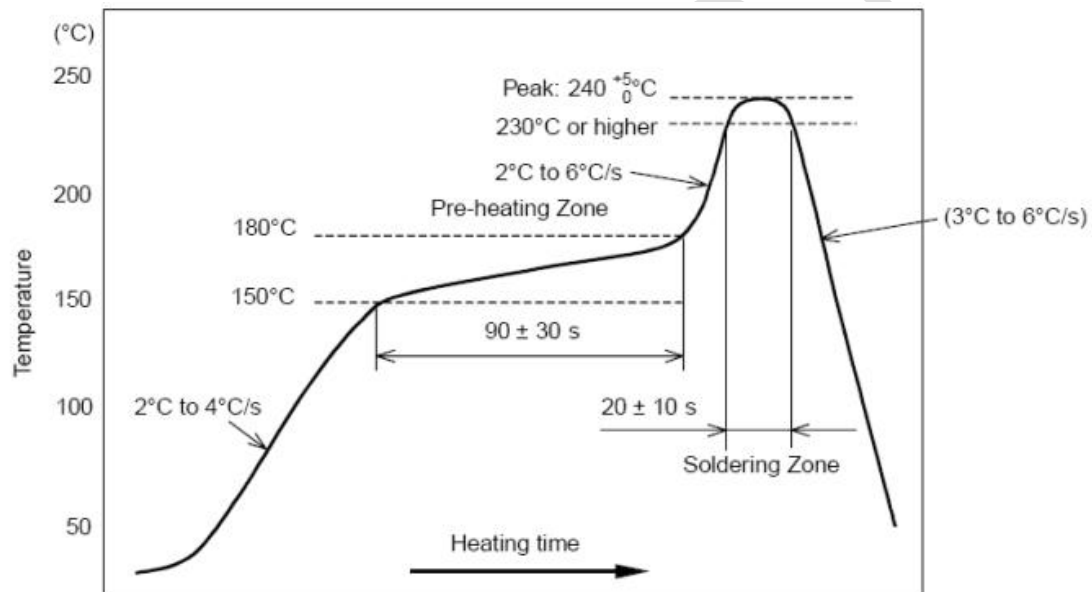

Figure 5 Parts' heat-resistance temperature curve for welding(welding point)
2. Times allowed to reflow: 2 times, for the below reflow (conditions) (figure 5) ;
3. Temperature curve: the reflow should be in accordance with the temperature curve shown below (figure 5);